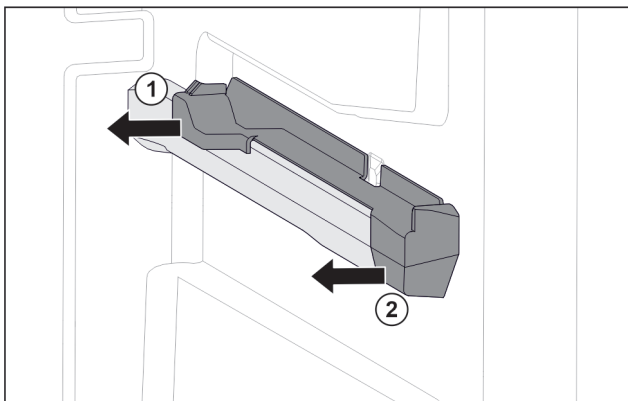

Fig. 50 Attachment on the right moulded rib
- ▶ Grab attachment at the back from below. Fig. 50 (1)
- ▶ Pull off attachment at the back sideways. Fig. 50 (1)
- ▶ Pull off attachment at the front sideways. Fig. 50 (2)